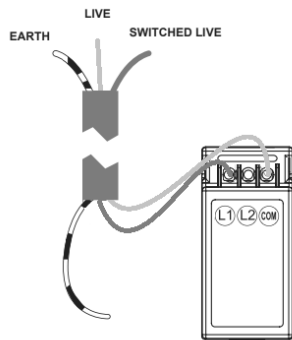

Fig. 1
- Pull cabling through the grid frame, strip insulation accordingly, and terminate into the module (see Fig. 1)